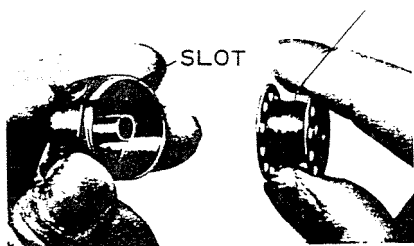

Fig. 5
- Step 1 : Hold bobbin case between thumb and forefinger of left hand so that the slot in the edge of the bobbin case is on top (Fig. 5).
- Step 2 : Take the bobbin between thumb and forefinger of right hand and extend the thread about four inches from the bobbin (Fig. 5).